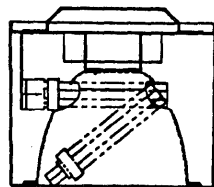

Fig. 5
- Fixture is now ready to be lamped. See Fig. 5 for proper installation of lamps. Refer to label located on reflector for proper lamp type and wattage.